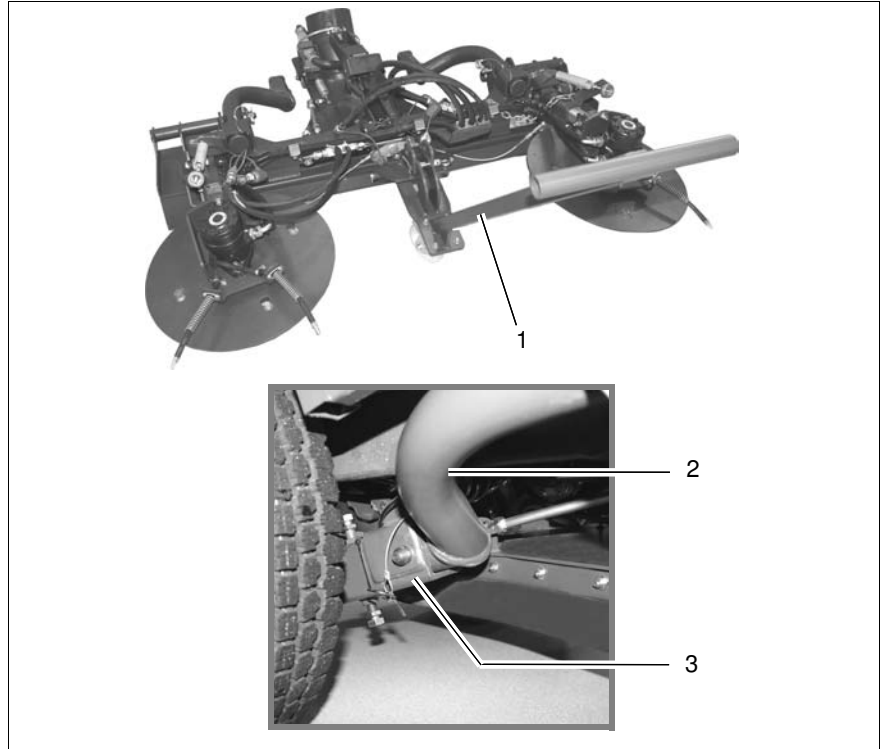

Fig.29
For installing the sweeping unit the storage stand (Fig. 29/1) is required.
2. Insert the supporting arms (Fig. 29/2) into the guides (Fig. 29/3) and secure them with locking bolts and locking pins.